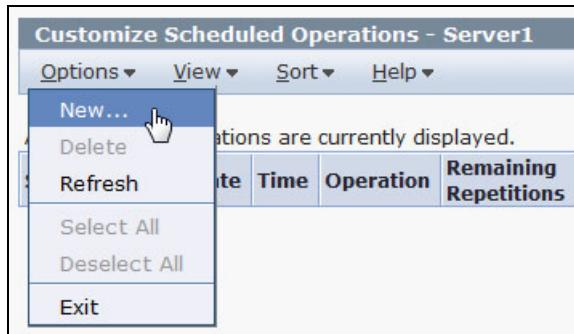

Figure 1-14 Customize Schedule Operations window
2. Create a schedule in the Customize Scheduled Operations window by clicking **Options** → **New...**, as shown in Figure 1-14.